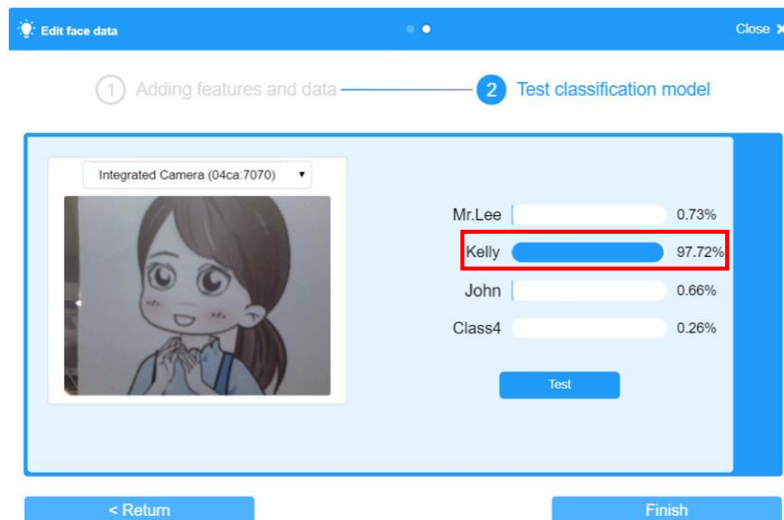

Figure 5.5 Testing the facial recognition model
Step 8: Test the facial recognition model. Place the face under the camera and click the **test** button. The right side of the test window shows the computer-predicted probability that the face matches each name. The likelier the name is to be correct, the more accurate the facial recognition model, as shown in Figure 5.5.